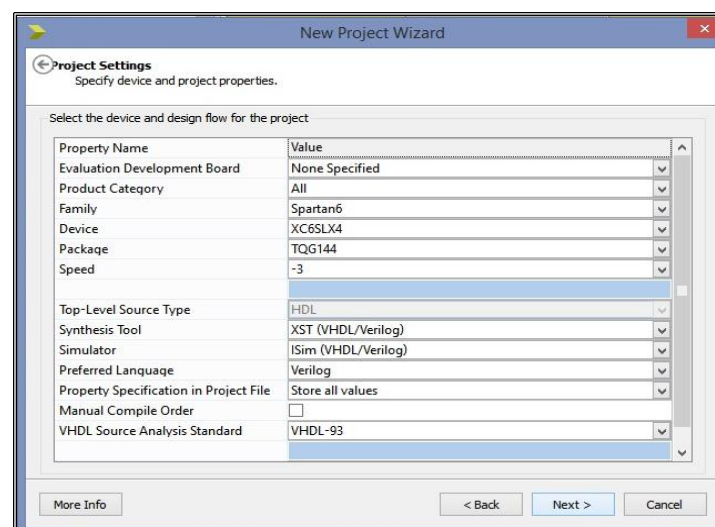

Fig 3.2: Project Properties
3. Next in the **New Project Wizard - Project Settings** page, select the following to specify project and device properties (Fig 3.2):